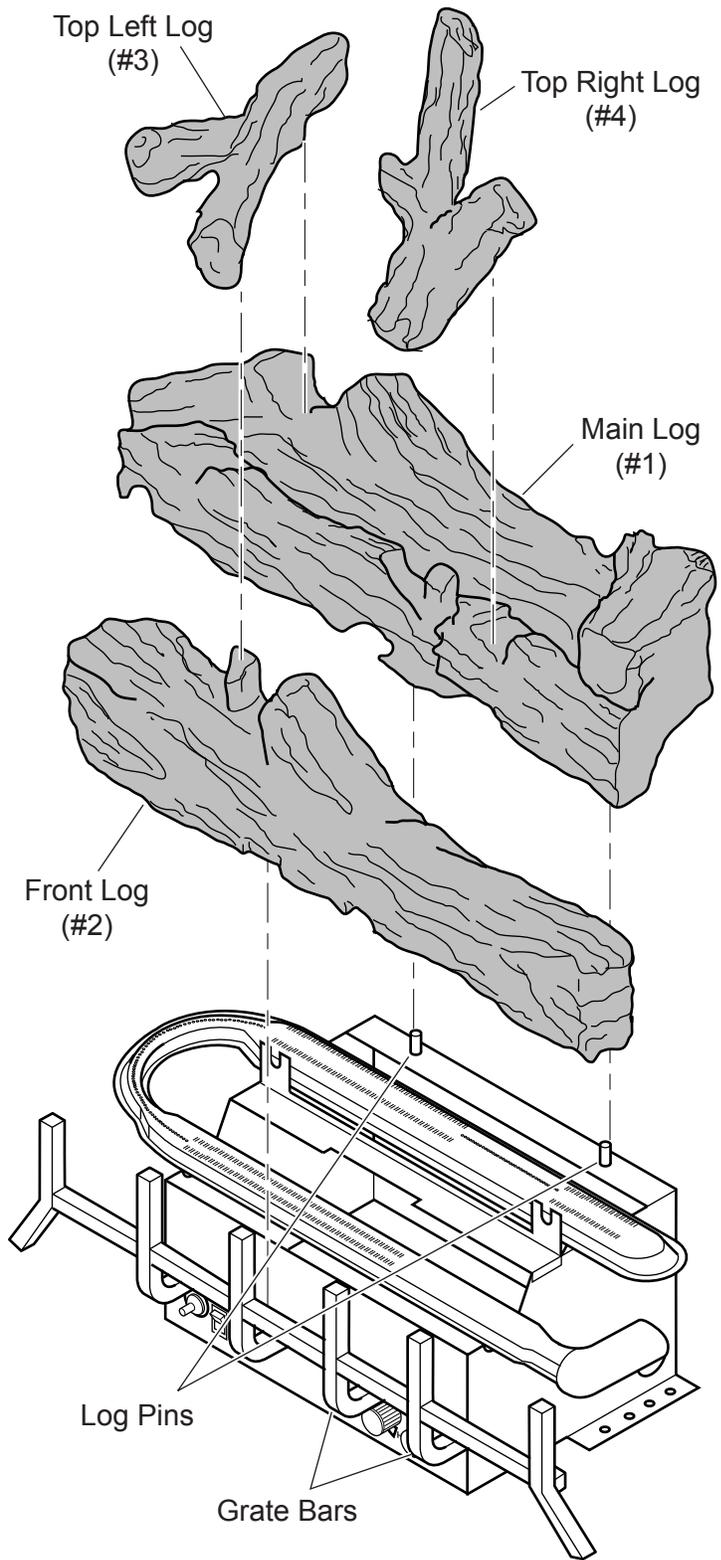

Figure 18 - Installing Logs to Grate
1. Install Main Log (#1) on two log pins on base. Check log position and stability. *See Figure 18.*
2. Install Front Log (#2) in front of burner on the grate bars. *See Figure 18.*
3. Rest rear end Top Left Log (#3) in the indentation on the main log. Line up hole in bottom of Top Left Log (#3) with slot on Front Log. *See Figure 18.*
4. Position rear end of Top Right Log (#4) on indentation of main log. Rest front end of Top Right Log (#4) on front lot. *See Figure 18.*